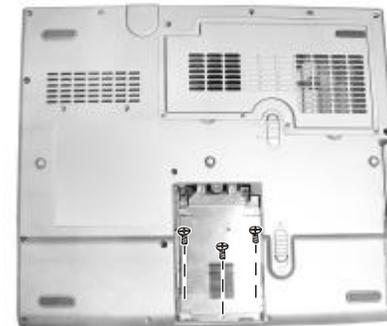

Figure 2-11 Remove three screws that secure the top shielding
4. Remove three screws that secure the top shielding of the hard disk drive. (Figure 2-11)